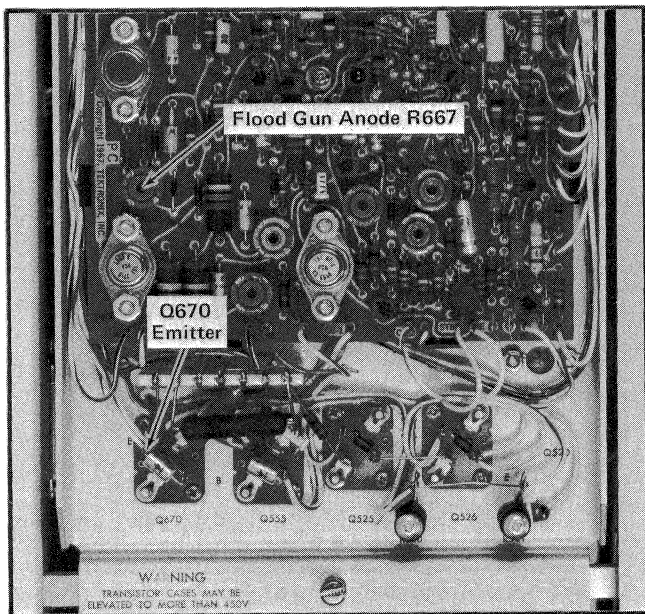

Fig. 5-4. Locations of step 5 adjustment on Storage board and test point on Storage chassis.
5. Check or Adjust Flood Gun Anode Voltage (R667) ❶
c. Connect a precision DC voltmeter between the emitter of Q670 (Fig. 5-4) and ground.
d. ADJUST—R667 (Fig. 5-4) until the voltage is the same as originally specified for the CRT flood gun anode voltage. If the CRT original voltage is not known, set R667 to obtain a voltmeter reading of +150 volts.